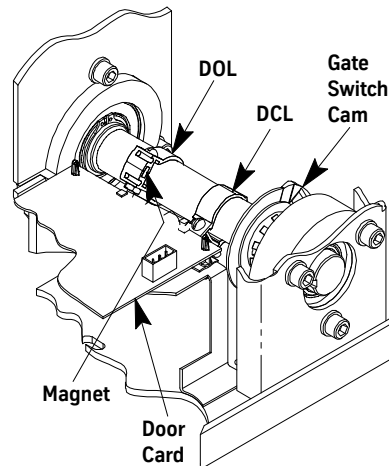

Figure 23 - Door Operator Cams
3. Manually move the door to the Fully Closed Position, noting which direction the cam shaft rotates. See Figure 23.